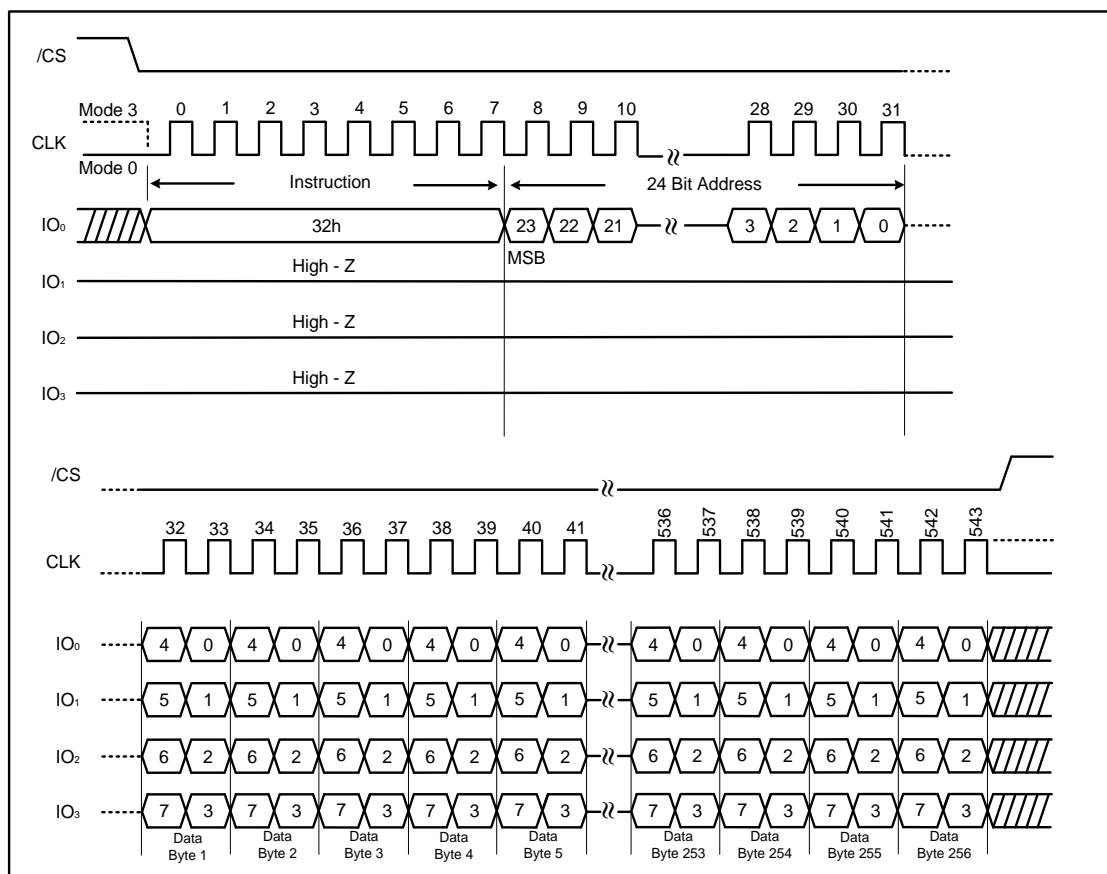

Figure 27. Quad Input Page Program Instruction (SPI Mode only)
To use Quad Input Page Program the Quad Enable (QE) bit in Status Register-2 must be set to 1. A Write Enable instruction must be executed before the device will accept the Quad Input Page Program instruction (Status Register-1, WEL=1). The instruction is initiated by driving the /CS pin low then shifting the instruction code "32h" followed by a 24-bit address (A23-A0) and at least one data byte, into the IO pins. The /CS pin must be held low for the entire length of the instruction while data is being sent to the device. All other functions of Quad Input Page Program are identical to standard Page Program. The Quad Input Page Program instruction sequence is shown in Figure 27.